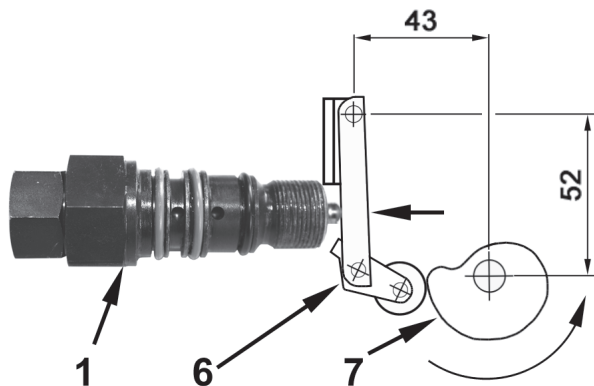

Fig. 6 Activated vent cycle diagram
- The cam (7) (Fig. 6) engages the vent lever (6) depressing the vent valve plunger (8) (Fig 10). This opens the valve passage of the supply line to the reservoir.